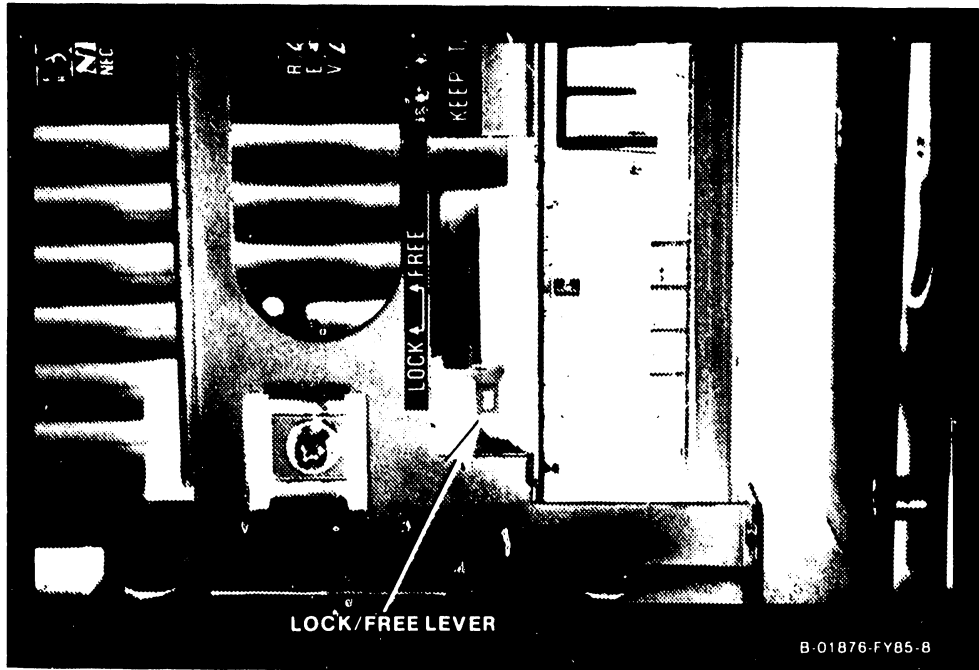

Figure 4-7. NEC Disk Drive LOCK/FREE Lever
Before powering on a NEC disk drive in the VS-85-H, be sure that the spindle is in the "FREE" position. To free the spindle, move the red lever on the front of the drive to the right, up, and left to the "FREE" position. Failure to perform this step could result in damage to the servo and drive motor components. (Refer to Figure 4-7 below.)
2. Make sure the 115/230V Line Select Switch on the 8250 Power Controller board (figure 4-7) is in the 115 vac position for ALL VS-85 systems (not available on the VS-85-H). (Check which switching power supply is installed in the system. If it is a Powertec supply, it also has a 115/230V Line Select Switch. Check the rear of the supply to make sure the switch is in the 115 vac position. This applies to ALL VS-85 systems.)